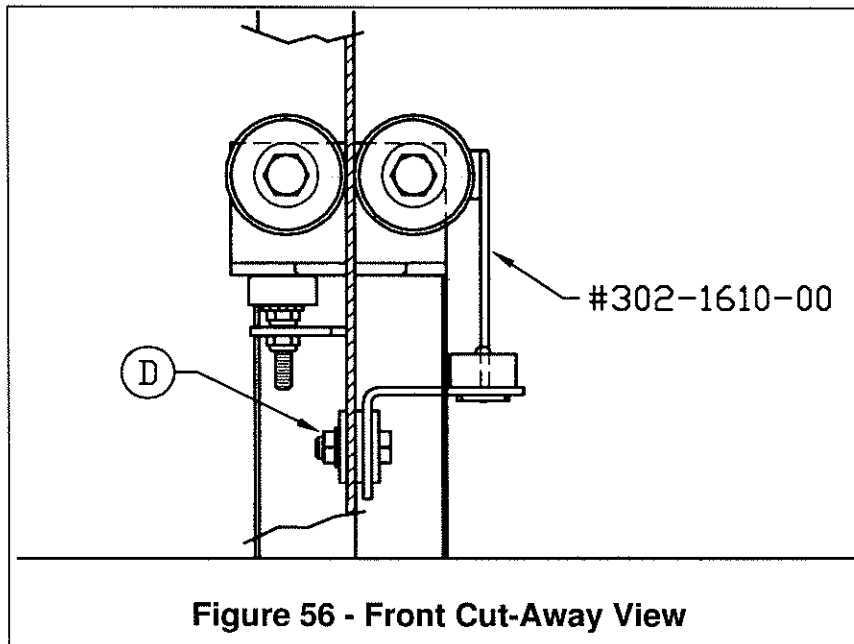

Figure 56 - Front Cut-Away View
Using the manual deck crank (part number Z-ME4100), lower the deck until it rests on the bumpers which were adjusted in 9C. Check the deck's lower limit optical sensor to ensure that it is flush with the actuator's bottom. If necessary, lower or raise the optical sensor by loosening the hexagon nut (D) in order to align it with the actuator (302-1610-00). (Figure 56) Perform a deck calibration through the Magnet 2001 Controller once the opto has been adjusted.